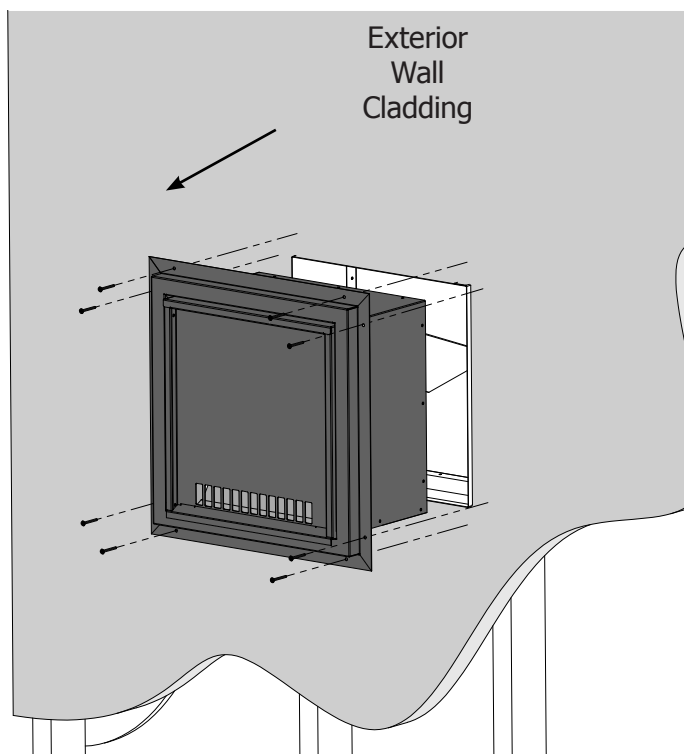

Figure 6: Termination installation
7. Upon completion of Step 6, mount the finishing face to the termination using eight (8) self-tapping screws. Three (3) screws for each side and two (2) screws for the bottom tab. Seal the screw heads with silicone. **IMPORTANT:** Ensure the finishing face is mounted square to the front of the termination
B) Tighten the two (2) screws on the strain relief to clamp down and secure the cable within the termination.
9. Install the termination into the exterior thimble and fasten in place using eight (8) standard wood screws. See Figure 6 for reference.